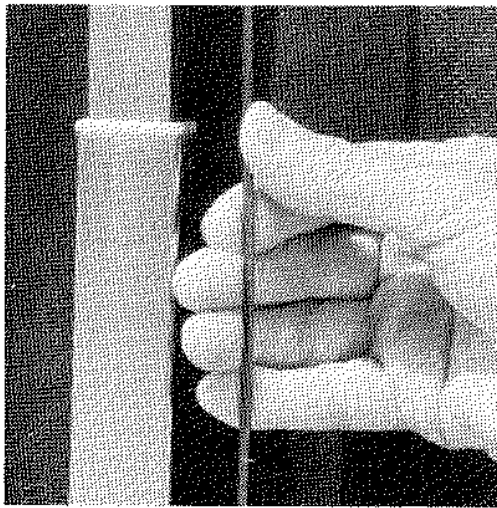

Fig. 3
3. Push toggle switch “up” to initialize power and raise roof. Continue to hold the toggle switch up until the red or gray limit cable is **ALMOST** taut. See figure 3 in your owner manual.
8. Now, complete raising roof until red or gray limit cable is snug. **DONOT OVERTIGHTEN.** Fig 3